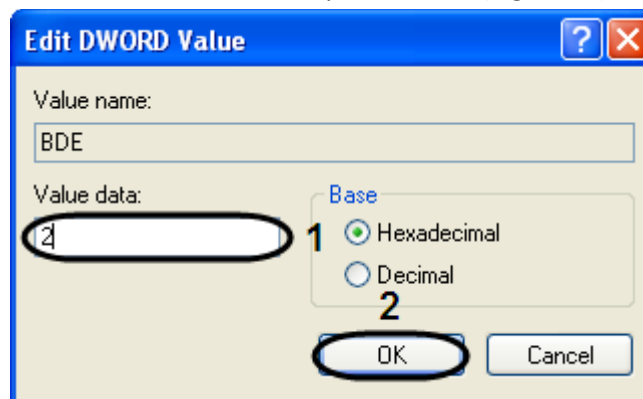

Fig. 9.3-4 Edit DWORD value
8. Set the value to the new string parameter. Make a double click with a left mouse key upon the parameter's name for this. Edit DWORD value will open in result (Fig. 9.3-4).
- 8.1. Assign 2 value to the «BDE»parameter (Fig. 9.3-4, 1).
- 8.2. Click «OK» to save the changes (Fig. 9.3-4, 2).